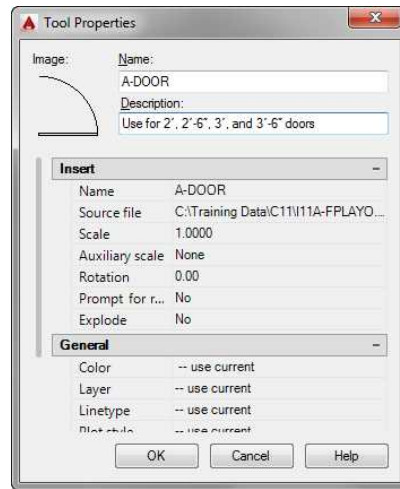

FIGURE 11.30: The Tool Properties dialog box
It displays information about A-DOOR and provides a means to change many parameters (see Figure 11.30).
13. Change the description for the A-DOOR tool to Use for 2', 2'-6", 3', and 3'-6" doors so that the tooltip will more accurately describe the block's intended application (see Figure 11.30).